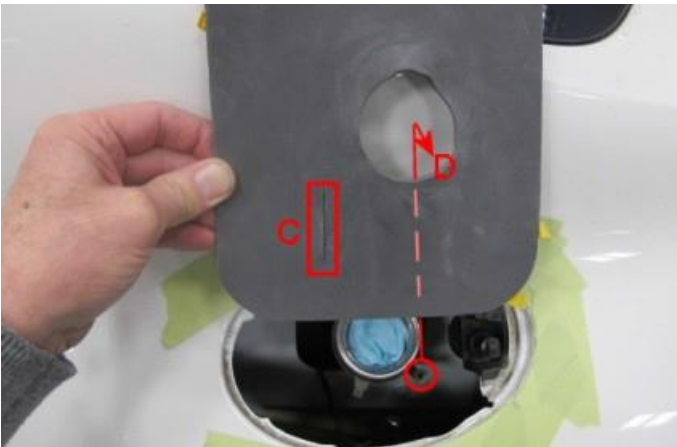

Figure 2
4. Position water deflector (part number 3Y0813725) over filler fuel filler neck, threading the earth wire through slot (C) and the fuel filler drain tube through the main hole at point 'D' (see Figure 2)